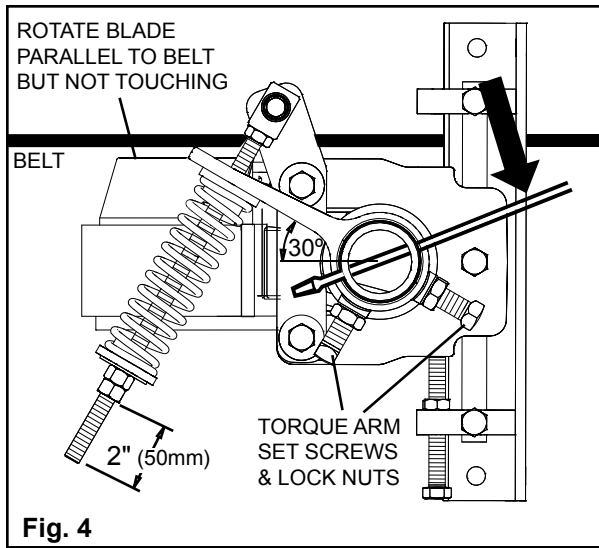

Fig. 4
- Insert a screwdriver or small rod through the holes on the end of the cleaner pole. Rotate the cleaner blade into a position parallel to the belt (Fig. 4). The blade should not be touching the belt at this time.
- Tighten the torque arm set screws and lock nuts on both sides of the cleaner. The angle between the torque arm and the pole should be about 30°, or approx. 2" (50mm) of visible thread showing on bottom end of rod. (Fig. 4).